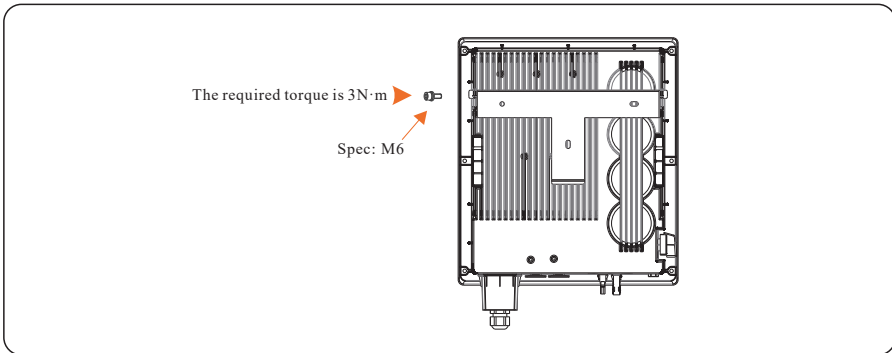

Figure 4.14 Securing the inverter
Step 2 Mount the inverter on the rear panel and keep them aligned with each other, as shown in Figure 4.14.
Step 3 Tighten the two hexagon screws at the both sides of the inverter to a torque of $3\text{N}\cdot\text{m}$ respectively as shown in Figure 4.14.